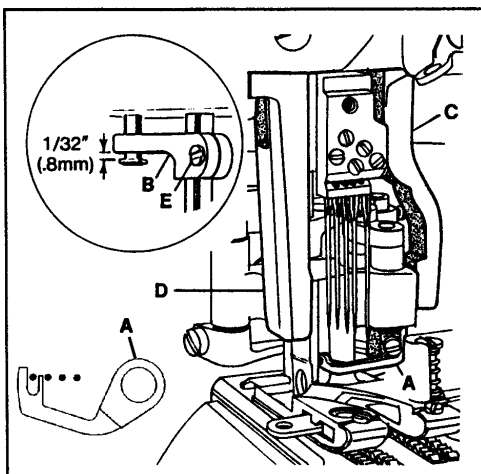

FIG. 20
Remove the presser bar regulating screw and the presser spring. Raise the needle bar to its highest position and remove the retainer. As the foot is slipped under the needles, swing the upper knife into the opening on the right side of the foot and slide the linkage onto the hook driving sleeve. Insert the presser bar through the linkage and into the presser foot shank. Tighten presser foot screw. With the presser bar inserted properly into the presser foot, position the foot left to right so the finger of cover thread carrier (A, Fig. 20) is between the first and second needles. Set presser bar guide (B, Fig. 20 Inset) so foot will not move. Set right presser foot guide (C) and left presser foot guide (D) to maintain setting. Loosen presser bar guide screw (E Fig. 20 Inset) and check to see that foot has vertical freedom with no right to left play, no bind. Put the needle bar in its lowest position, and set 1/32" (0.8mm) above head of presser bar guide stud. Tighten presser bar guide screw (E).
Turn the handwheel in operating direction until link (A, Fig. 20) has traveled fully to the front. There must be a $1/64$ " (0.4mm) clearance between link (A) and the back of needle head (B) when link (A) starts to jackknife. Loosen screw (C) and rotate driving sleeve (D) to position link (A). Tighten screw (C).